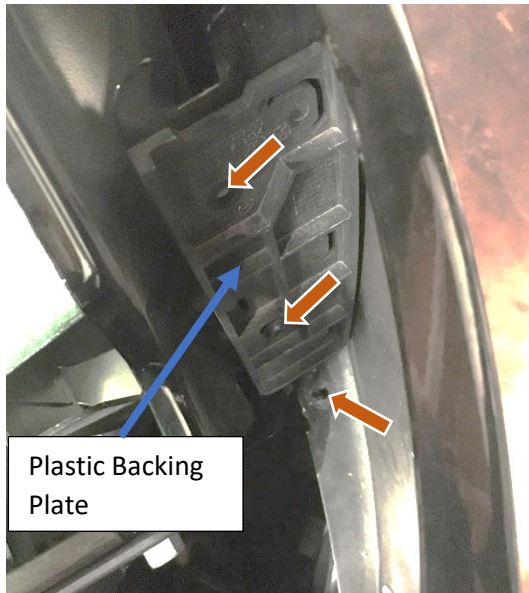

Figure 3: Hidden Bolts Underneath Headlights
4. Remove the two (2) torx bolts holding the front fascia to the vehicle sides and the one (1) 10mm screw holding the top of the factory bumper located in the back corner underneath the headlight (Figure 3). Remove the plastic backing plate (Figure 3).